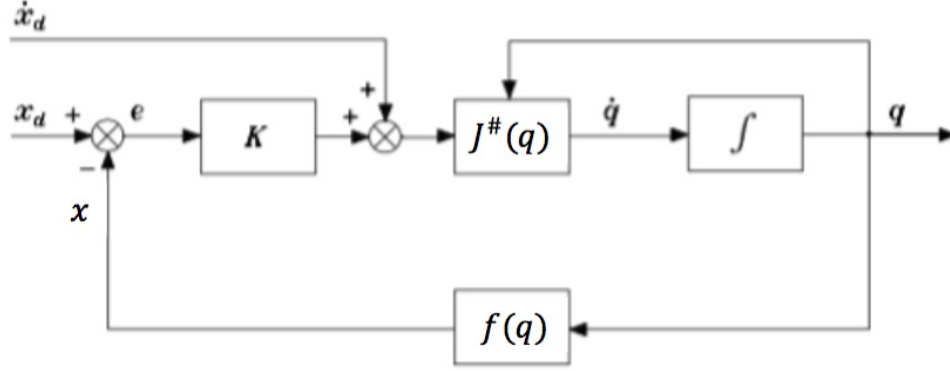
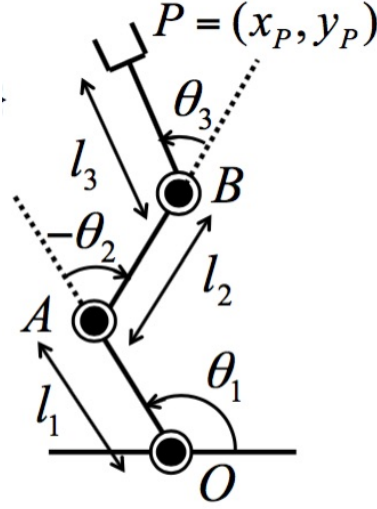

Figure 4: A block diagram of the Jacobian-based inverse kinematics algorithm
Figure 5: 3 DoFs Planar Robot
In this question, we will study the performance of different types of Jacobian-based inverse kinematics algorithms using a simple 3R robot (Fig. 4). The operational space is set as the cartesian tip position  $x = [x_p \ y_p]^T$  and the joint angles are  $q = [\theta_1 \ \theta_2 \ \theta_3]^T$ . In the simulation, assume all the link lengths are set to 1 meter.
- (a) **Pseudoinverse** Create a simulation of the Jacobian-based inverse kinematics loop (Fig. 5) of the robot (Fig. 4) in Matlab. Use the simulation to track a circular trajectory in cartesian space defined as  $x(t) = [0.25(1 - \cos \pi t) \ 0.25(1 - \sin \pi t)]^T$ . To complete the simulation, you will need to implement
- ii. Compute the tip velocity vector for each of the following input joint velocity conditions: (A)  $\dot{q} = [\frac{\pi}{4} \ 0 \ 0]^T$ , (B)  $\dot{q} = [0 \ \frac{\pi}{4} \ 0]^T$ , (C)  $\dot{q} = [0 \ 0 \ \frac{\pi}{4}]^T$ .
3. **Statics and Null Space** Consider the manipulator shown in Fig. 4. The system has three degrees of freedom where the joint variables are  $q = [\theta_1 \ \theta_2 \ \theta_3]^T$ . Assume all the link lengths are equal to 1m.